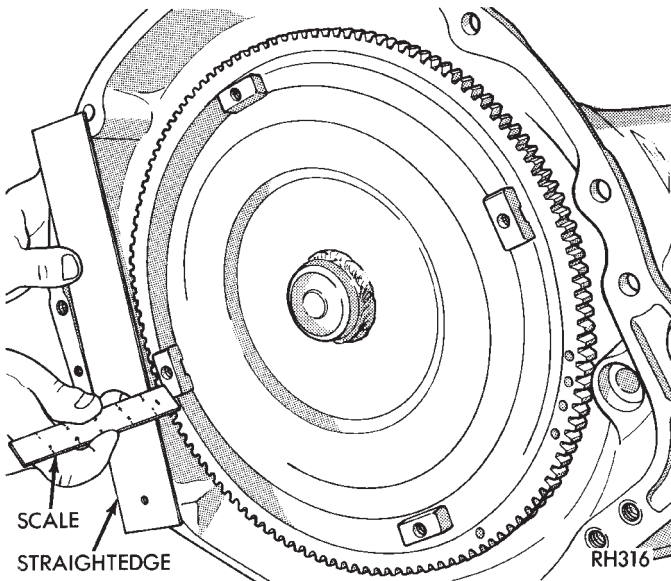

Fig. 60 Checking Torque Converter Seating
(3) Align torque converter to oil pump seal opening.
(4) Insert torque converter hub into oil pump.
(5) While pushing torque converter inward, Rotate converter until converter is fully seated in the oil pump gears.
(6) Check converter seating with a scale and straightedge (Fig. 60). Surface of converter lugs should be 1/2 in. to rear of straightedge when converter is fully seated.
(7) If necessary, temporarily secure converter with C-clamp attached to the converter housing.
(8) Install the transmission in the vehicle.
(9) Fill the transmission with the recommended fluid.